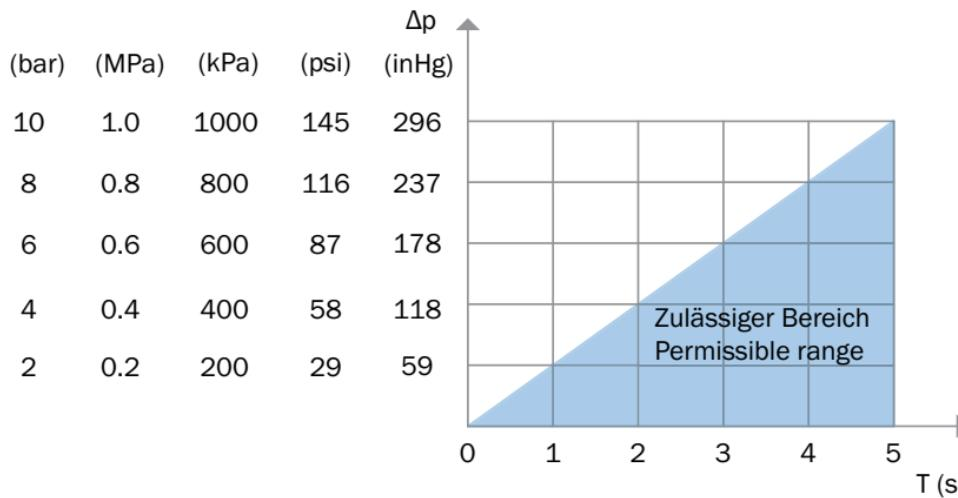

Figure 1: Minimum permissible period T with maximum pressure fluctuations Δp
- Do not allow the device to heat up as a result of repeated compression of the compressed air. The minimum permissible period for pressure fluctuations Δp is specified in Figure 1.